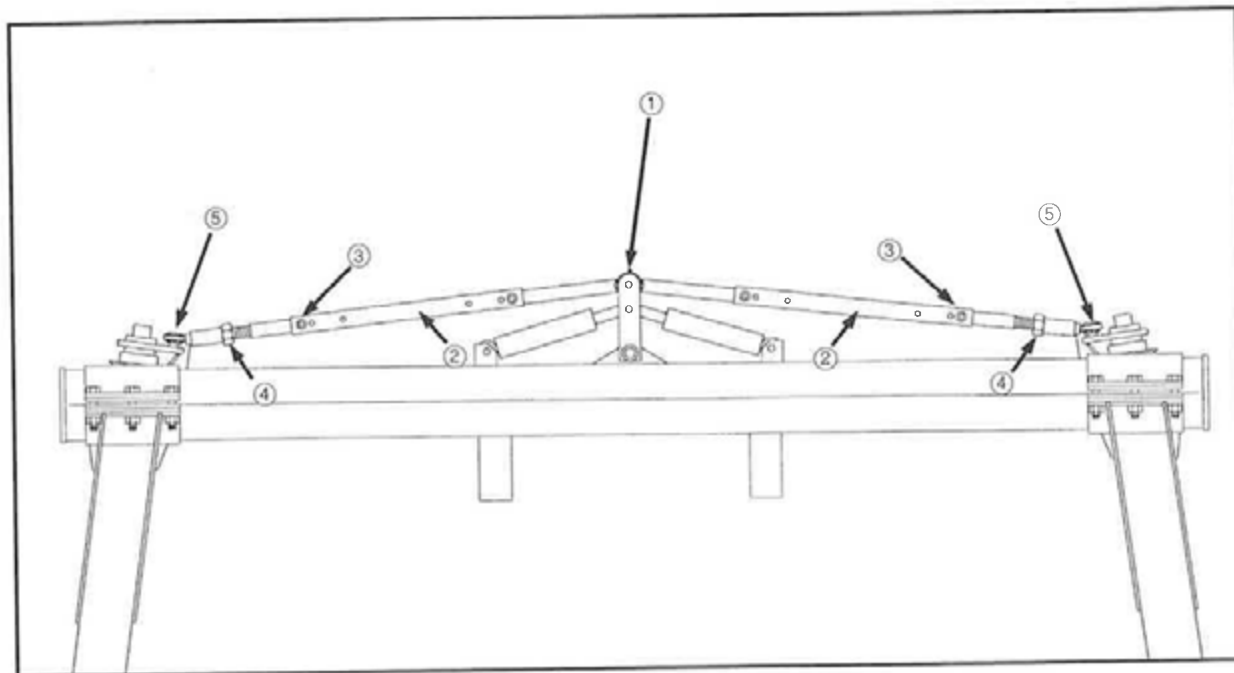

FIG 8.60
1. Turn steering wheel until center steering pivot (fig. 8.60, item 1) is vertical.
2. Loosen tie rod jam nuts (fig. 8.60, item 5).
3. Remove tie rod bolts (fig. 8.60, item 3) on outer end of tie rod tube (fig. 8.60, item 2).
5. Turn inner tie rod (fig. 8.60, item 4) in or out until the bolt hole lines up with the bolt hole in the tie rod tube. Then turn one more full turn **OUT**.